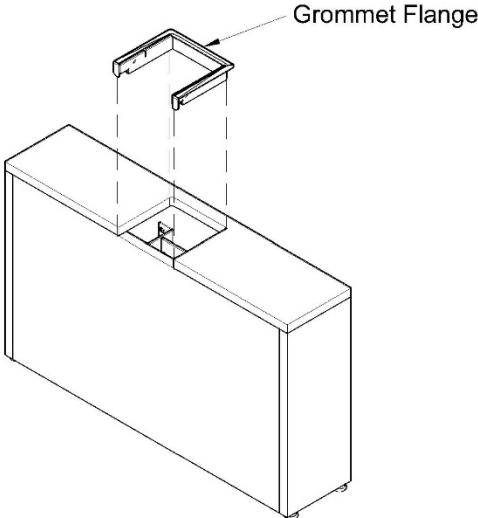

Figure 3
- 5. Remove the Grommet Flange as shown in Figure 3.